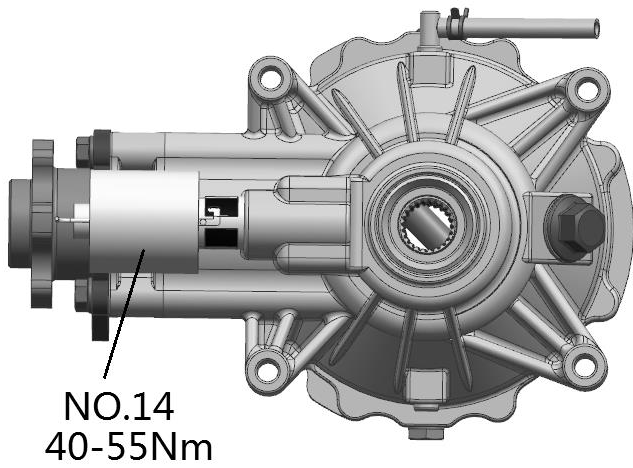

Fig20
11. If previously removed, install the Diff Solenoid (NO.14) into the carrier cover. Torque solenoid to **40-55Nm**. → Fig 20